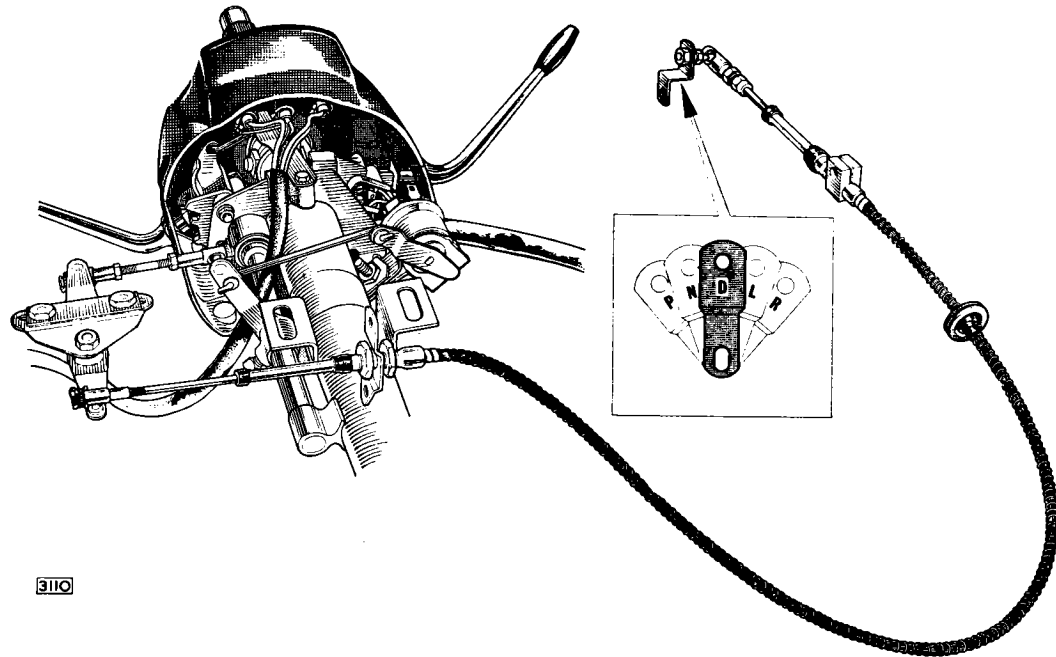

Fig. 8. Adjustment of the manual selector cable.
1. Place the selector valve lever in the D (Drive) position, that is, the centre of the five positions that can be obtained (see Fig. 8).